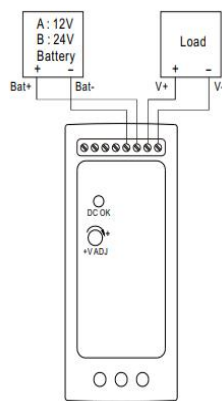

Fig 1.1 Suggested system connection
(1) Please refer to Fig1.1 for suggested connection.